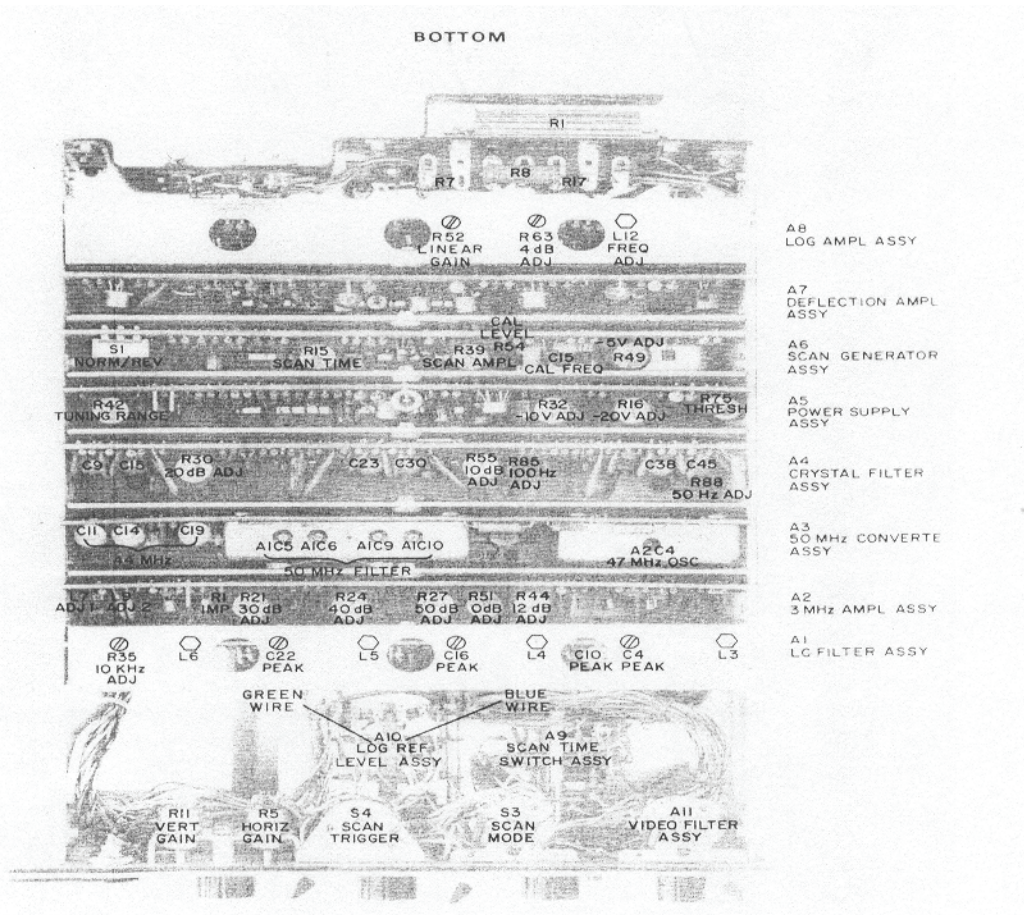
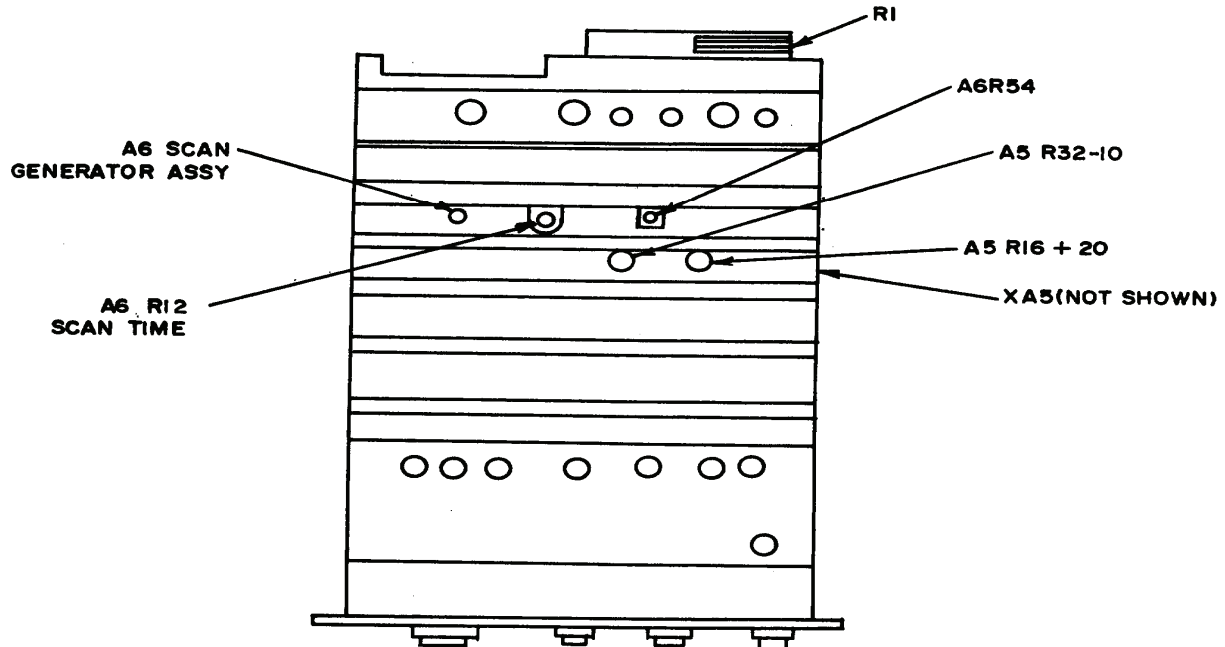
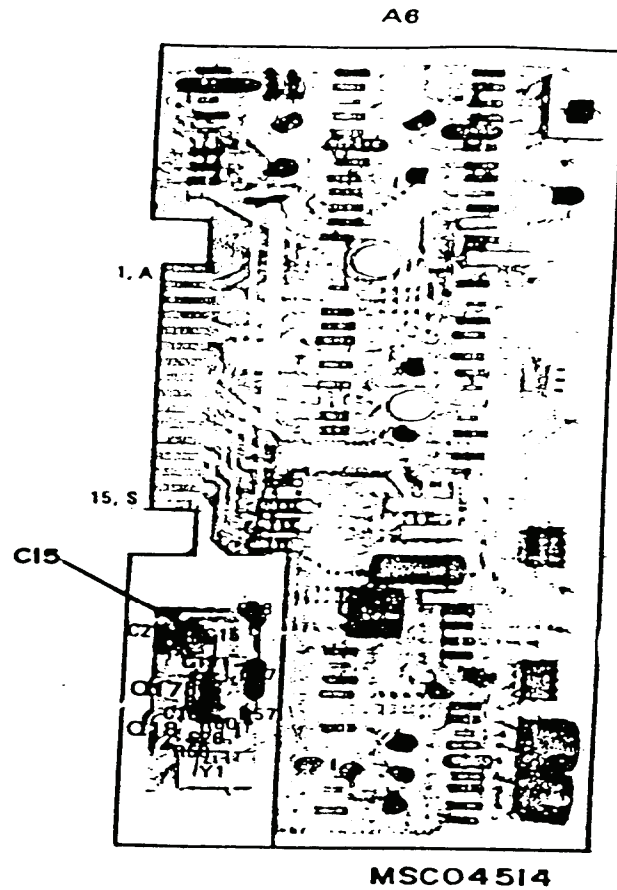

Figure 2. Model 8552A adjustment locations - bottom view.
Figure 3. Model 8552B adjustment locations - bottom view.
Figure 4. Test instrument - board A6 adjustment locations.
- (1) Connect TI to extender (supplied with TI) and connect extender to display section.
- (2) Adjust A6R54 (fig. 2 and fig. 3) for a -30 dBm  $\pm$ 0.3 dB indication on measuring receiver (R).
- (1) Connect TI to extender and connect extender to display section.
- (2) Adjust A6C15 (fig. 2 or fig 4) for indication specified in a (2) above (R).